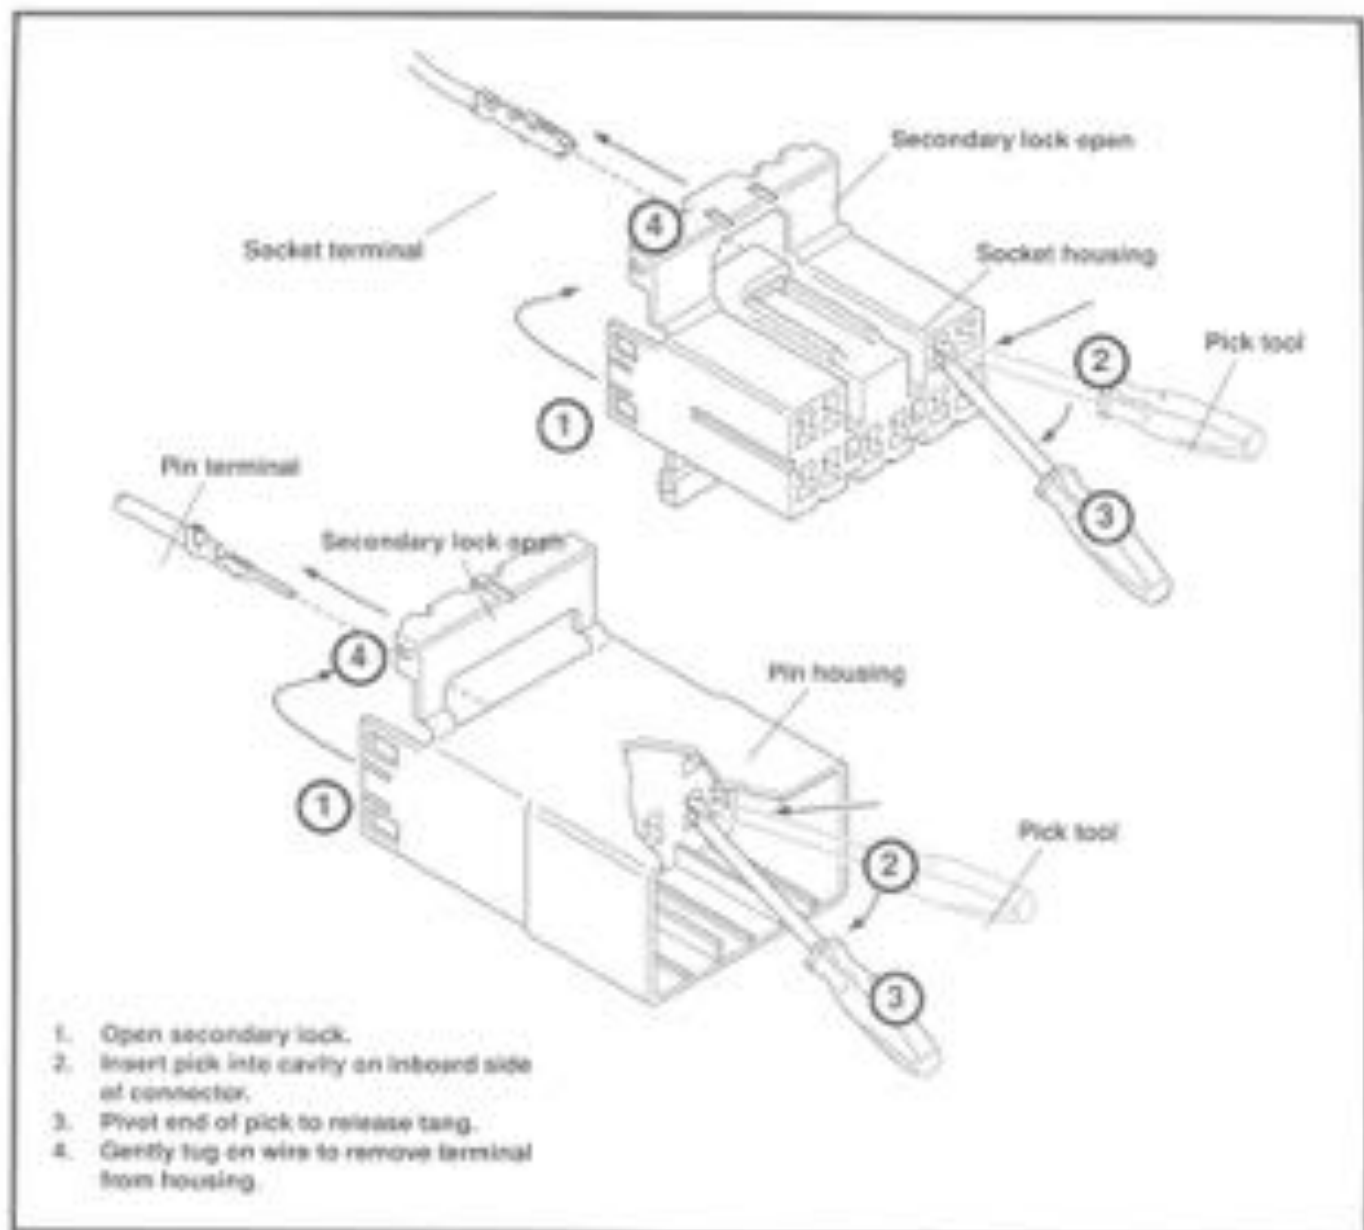

Figure 7-103. Amp Multilock Connector
5. See Figure 7-103. With the flat side against the terminal, insert the pick tool (Snap-On TT600-3) into the cavity until it stops. Pivot the end of the pick away from the terminal and gently tug on wire to pull terminal from chamber. Do not tug on the wire until the tang is released as the terminal will be difficult to remove. A "click" is heard if the tang is engaged but then inadvertently released. Repeat the step without releasing the tang.